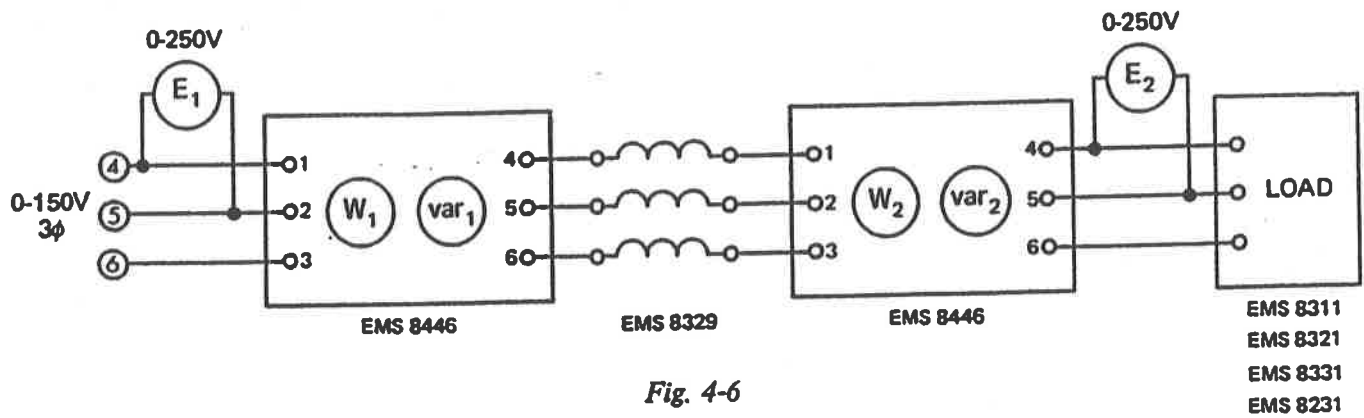

Fig. 4-6
□ 4-2) Using the variable-voltage AC source, connect the circuit as shown in Fig. 4-6, and set the impedance of the transmission line to 120 ohms. Connect an inductive load of 300 ohms in wye and apply power. All meters should read positive if their polarity switches are in the (+) position. If the readings are not positive, check your wiring for phase sequence. We are now ready to proceed with the experiment, using the circuit of Fig. 4-6.